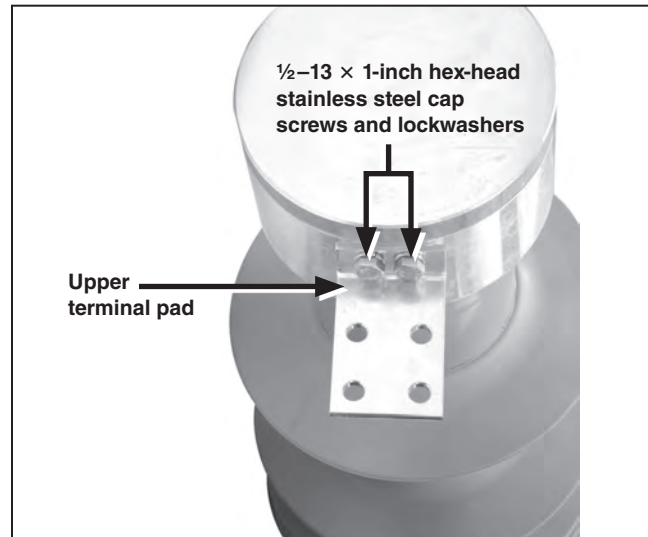

Figure 65. Bolt the upper terminal pad to the interrupter.
- Attach the terminal pad to the appropriate set of tapped holes on the interrupter. Tighten the screws to a torque of 40 to 50 ft.-lbs. See Figure 65.